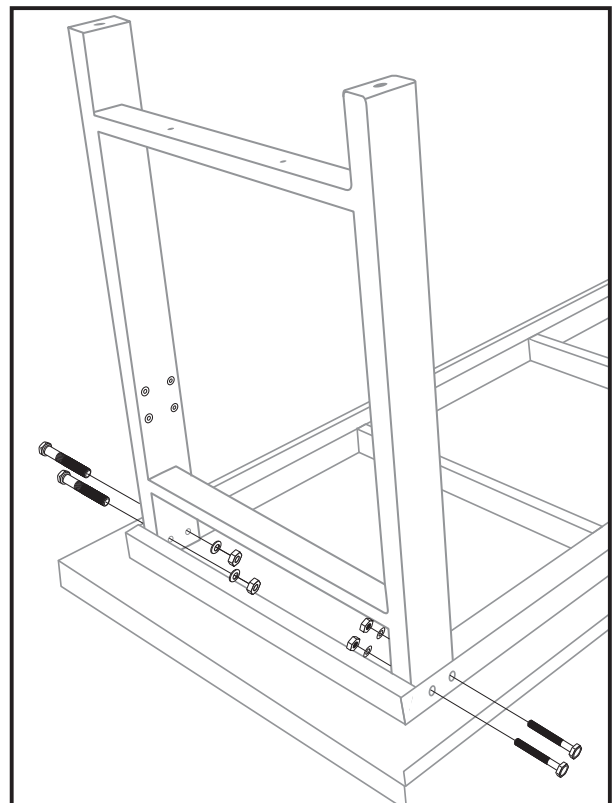

Figure 2
2. Attach the legs (#6) to the workbench top (#8) with M8*65 bolts (#1), then secure with M8 nuts (#2). Finger tighten all nuts. Note the leg cross beams should be with the inset toward the center of the worktable. (see figure 2)